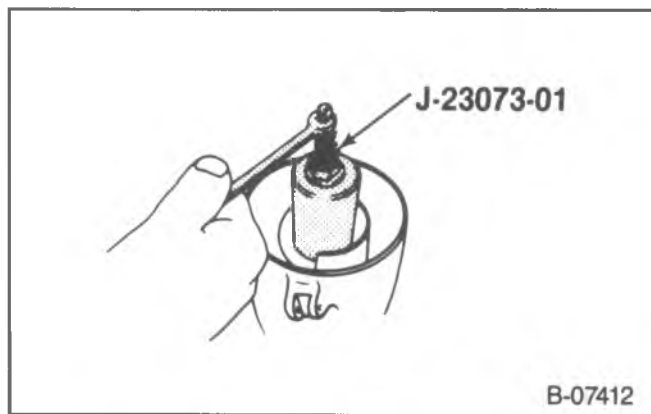

Figure 38—Shift Tube Assembly Installation
- Place the nut on the threaded end of the tool and pull the shift tube into the housing (figure 38).